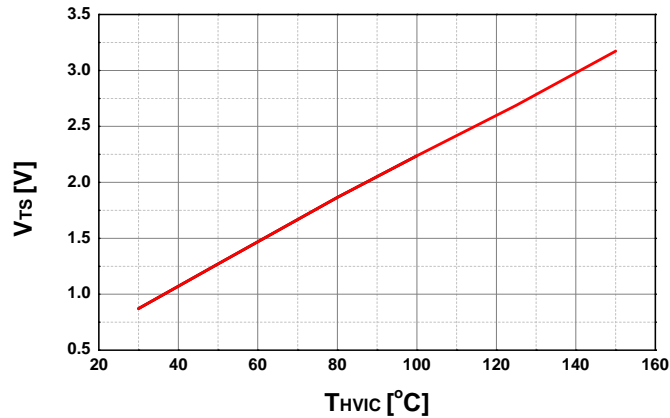
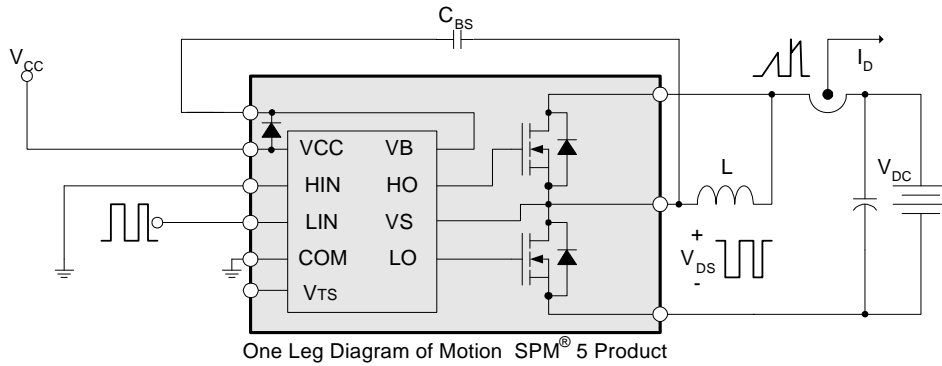

Figure 6. Temperature Profile of V_{TS} (Typical)
Figure 8. Switching and RBSOA (Single-pulse) Test Circuit (Low-side)
- t_{ON} and t_{OFF} include the propagation delay of the internal drive IC. Listed values are measured at the laboratory test condition, and they can be different according to the field applications due to the effect of different printed circuit boards and wirings. Please see Figure 6 for the switching time definition with the switching test circuit of Figure 8.
- The peak current and voltage of each MOSFET during the switching operation should be included in the Safe Operating Area (SOA). Please see Figure 8 for the RBSOA test circuit that is same as the switching test circuit.